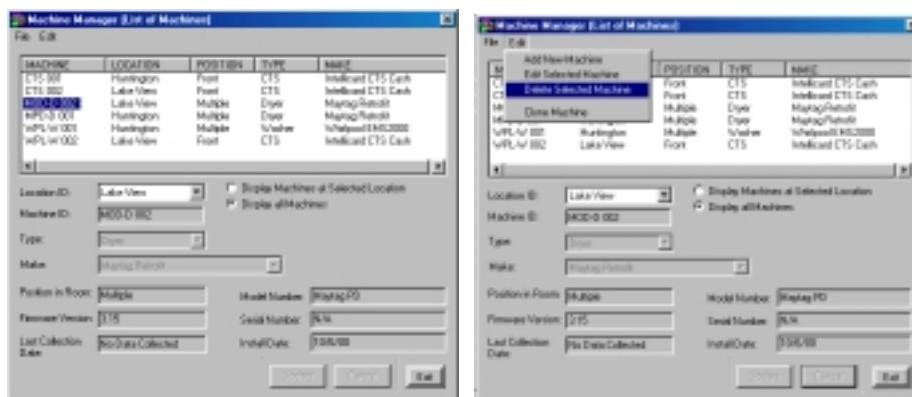

Figure 7.6 Deleting a Machine
2. Click the machine to delete from the Machine List Window (Figure 7.6).
3. Select Delete Selected Machine from the Edit drop-down menu (Figure 7.6).